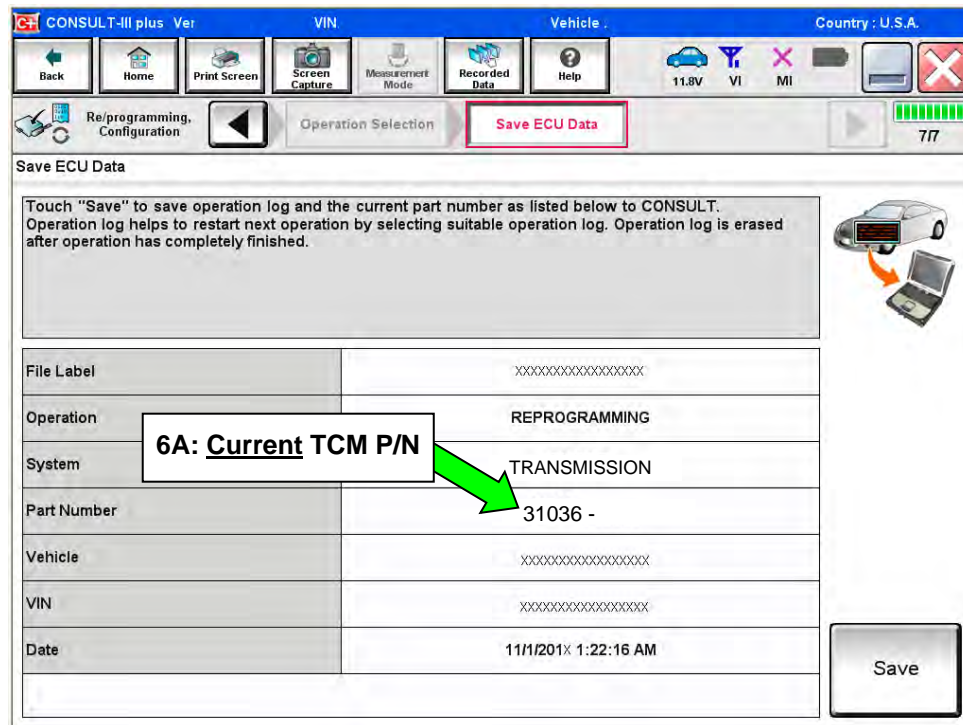

Figure 2K
5. Follow the on-screen instructions and navigate the C-III plus to the screen shown in Figure 2K on the next page.
6. When you get to the screen shown in Figure 2K, confirm this bulletin applies as follows.